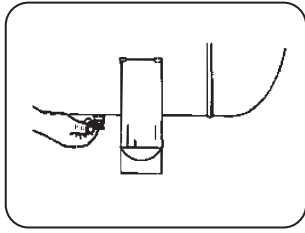

FIGURE 9.1
10. Check safety valve functioning (Figure 9.1) with the product turned off and with the tank without pressure, to avoid accidents.